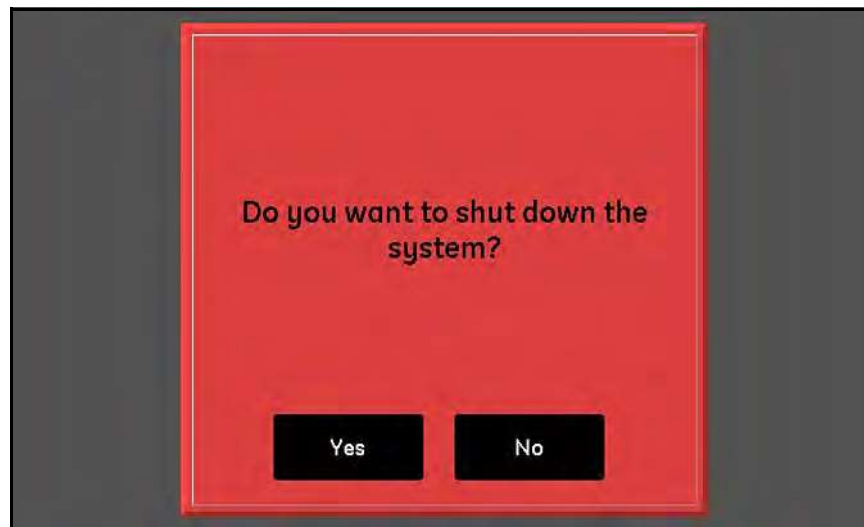

Figure 29: Shut Down Confirmation Screen
3. At the confirmation screen shown in *Figure 29* below, tap the **Yes** button to shut down the unit or tap the **No** button to cancel the request.
To shut down the moisture.IQ system, tap the **Shut Down** button. Then, tap either **Yes** or **No** at a confirmation screen similar to the one shown in *Figure 29 on page 33*.